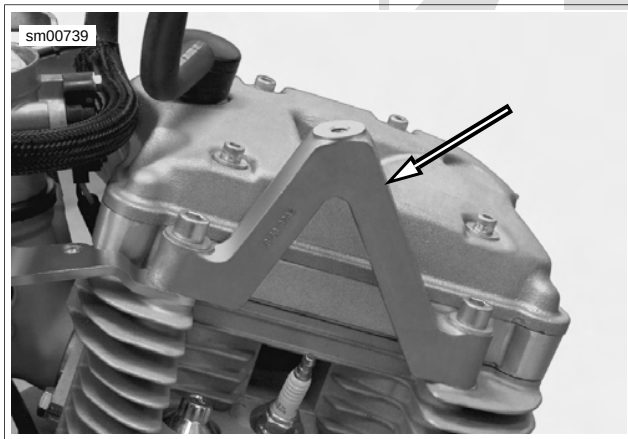

Figure 3-26. Center Tie Bar Mount
- b. See Figure 3-26. Install center tie bar mount with fasteners and tighten to 30-33 ft-lbs (40.6-44.7 Nm).